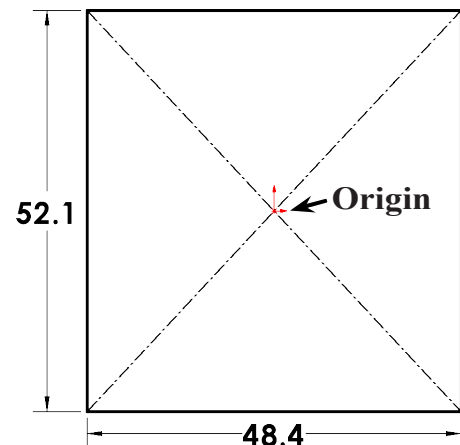

Fig. 2
Step 4. Sketch center rectangle at **Origin** , **Fig. 2**.
Step 5. Click **Smart Dimension**  (S) on the Sketch toolbar.
Step 6. Add dimensions, **Fig. 2**.